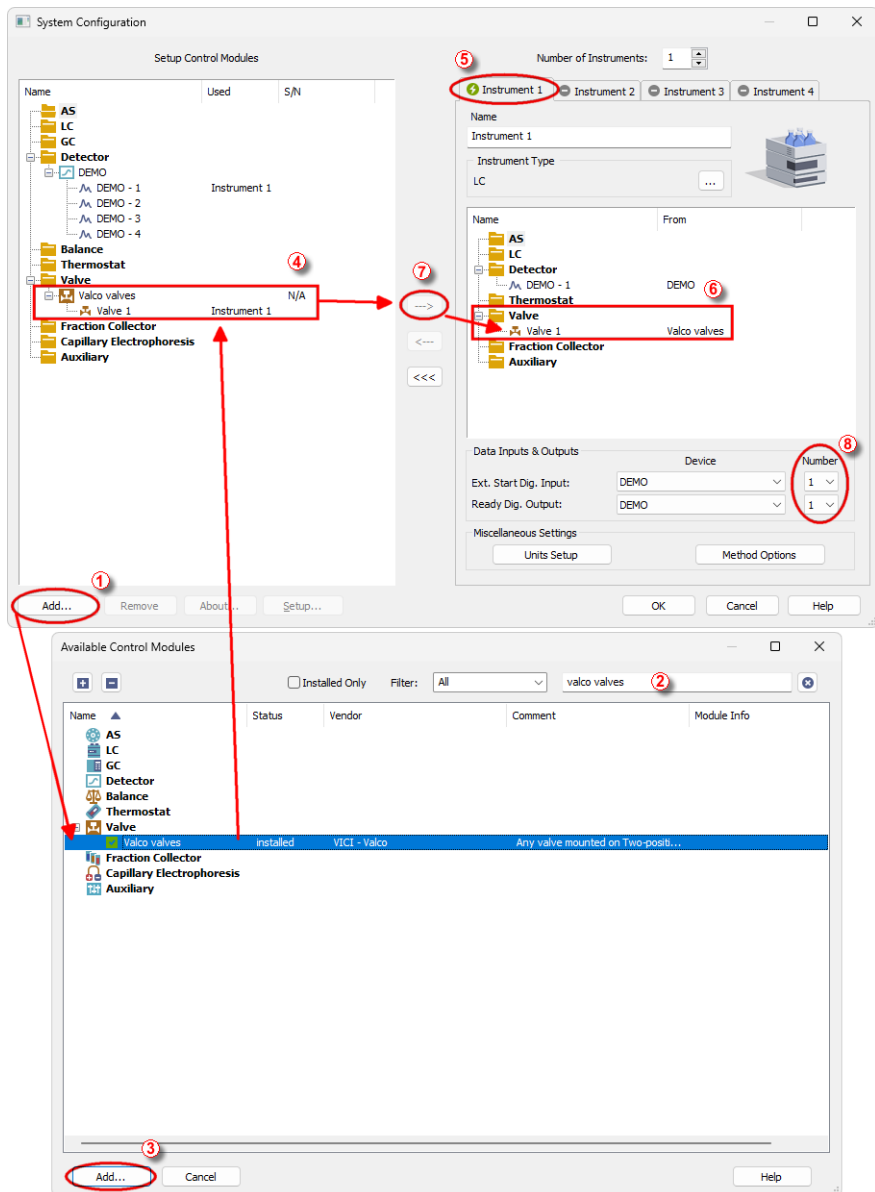

Fig. 3: System Configuration
- Press the *Add* button ① (see **Fig. 3** on pg. 4.) to invoke the *Available Control Modules* dialog.
- You can specify the searching filter ② to simplify the finding of the driver.
- Select the **ET, EH, EP, EHM, EMT, ECHM, ECMT** item and press the *Add* ③ button.